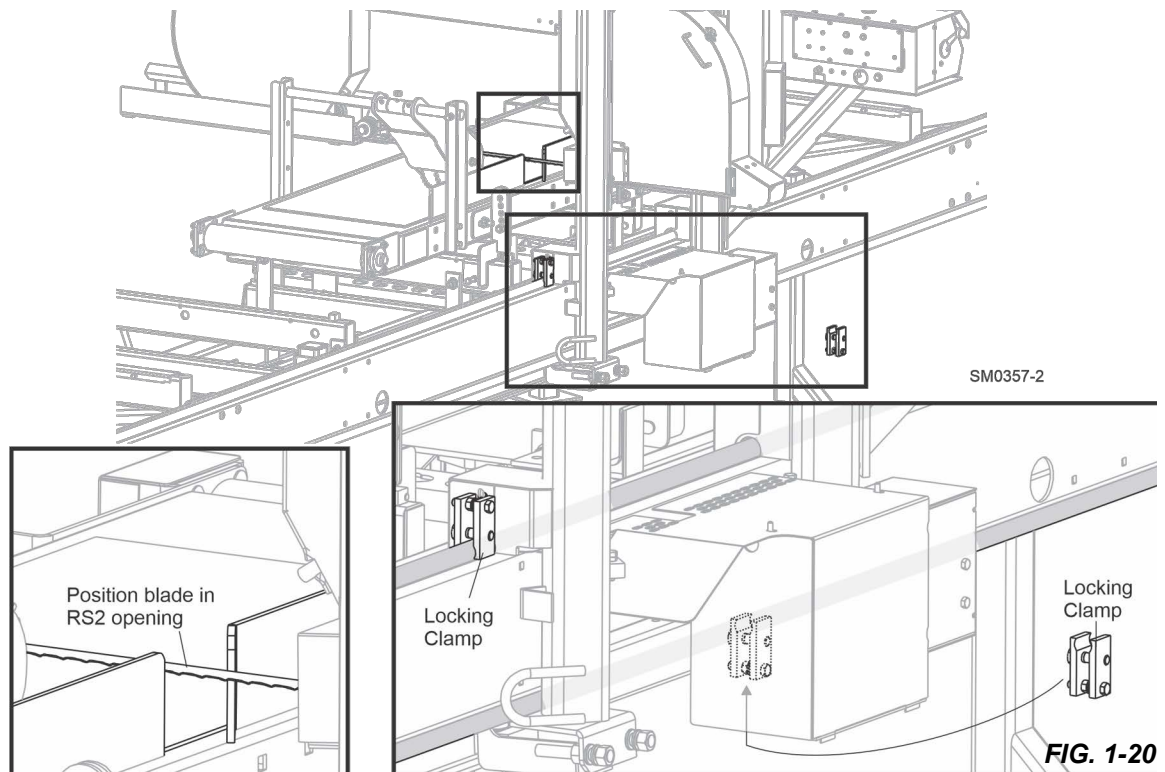

FIG. 1-20
6. Secure the saw carriage in position with the provided locking clamps. **See Fig. 1-20.**